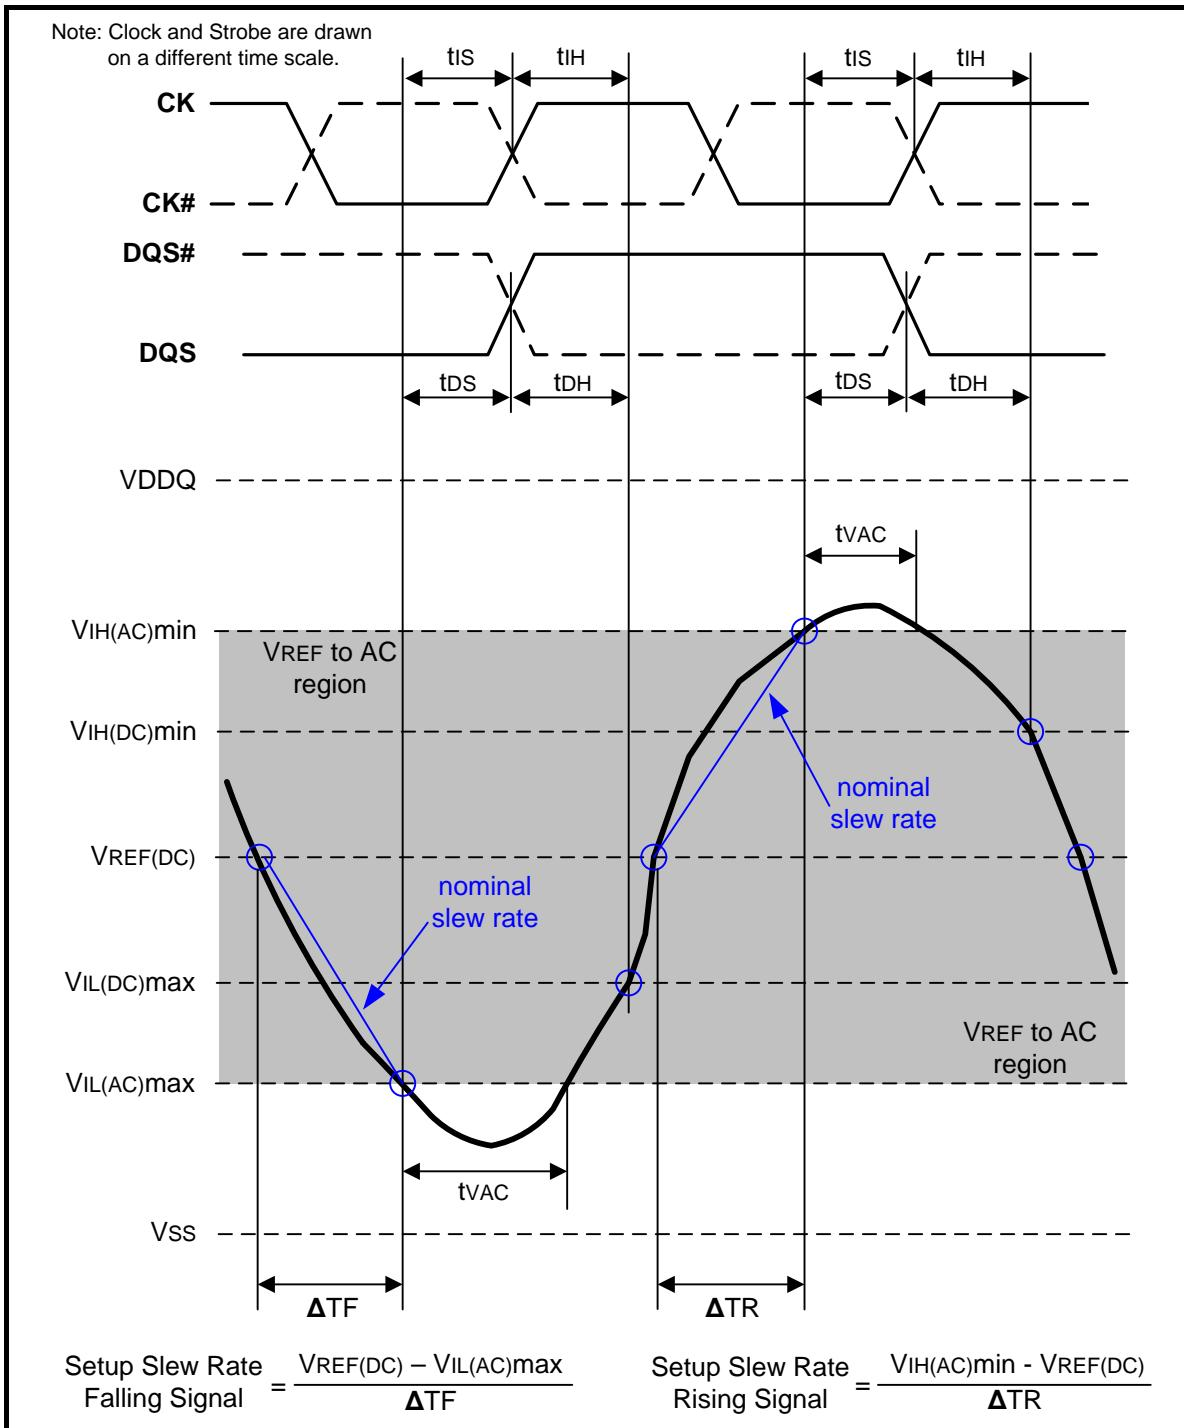
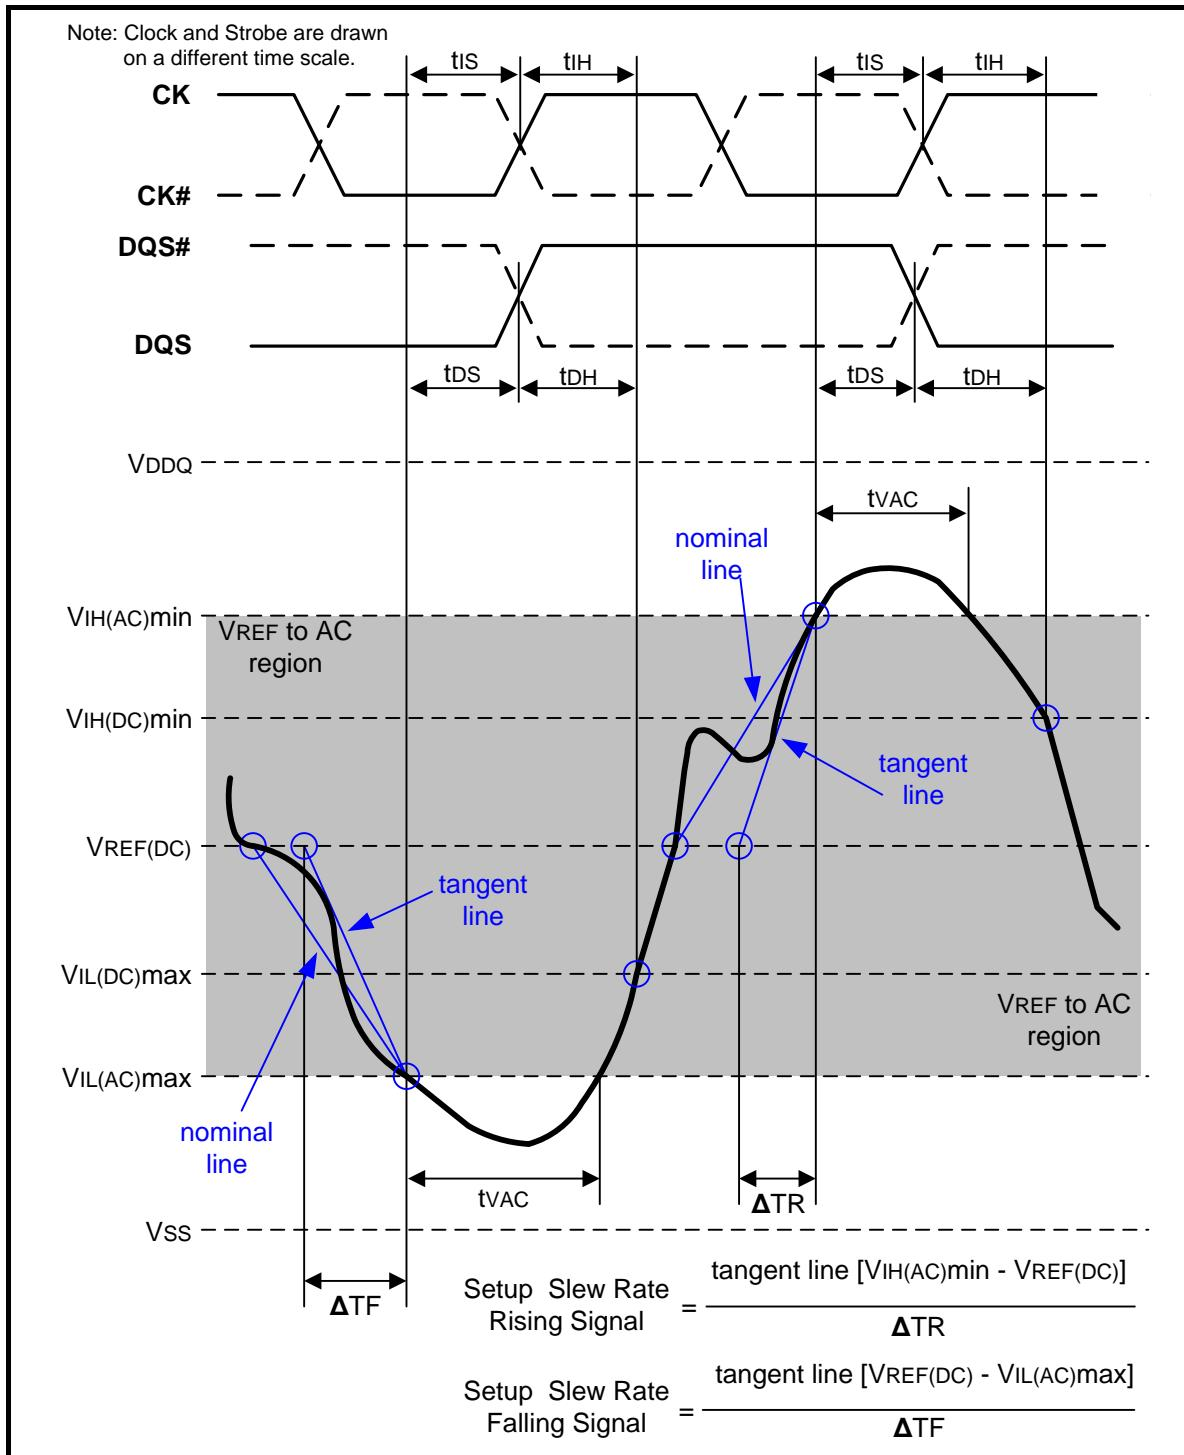

Figure 107 – Illustration of nominal slew rate and t_{VAC} for setup time t_{DS} (for DQ with respect to strobe) and t_{IS} (for ADD/CMD with respect to clock)
Figure 109 – Illustration of tangent line for setup time tDS (for DQ with respect to strobe) and tIS (for ADD/CMD with respect to clock)
Setup (tIS) nominal slew rate for a rising signal is defined as the slew rate between the last crossing of VREF(DC) and the first crossing of VIH(AC)min. Setup (tIS) nominal slew rate for a falling signal is defined as the slew rate between the last crossing of VREF(DC) and the first crossing of VIL(AC)max. If the actual signal is always earlier than the nominal slew rate line between shaded 'VREF(DC) to AC region', use nominal slew rate for derating value (see Figure 107). If the actual signal is later than the nominal slew rate line anywhere between shaded 'VREF(DC) to AC region', the slew rate of a tangent line to the actual signal from the AC level to VREF(DC) level is used for derating value (see Figure 109).
Setup (tDS) nominal slew rate for a rising signal is defined as the slew rate between the last crossing of VREF(DC) and the first crossing of VIH(AC)min. Setup (tDS) nominal slew rate for a falling signal is defined as the slew rate between the last crossing of VREF(DC) and the first crossing of VIL(AC)max (see Figure 107). If the actual signal is always earlier than the nominal slew rate line between shaded 'VREF(DC) to AC region', use nominal slew rate for derating value. If the actual signal is later than the nominal slew rate line anywhere between shaded 'VREF(DC) to AC region', the slew rate of a tangent line to the actual signal from the AC level to VREF(DC) level is used for derating value (see Figure 109).